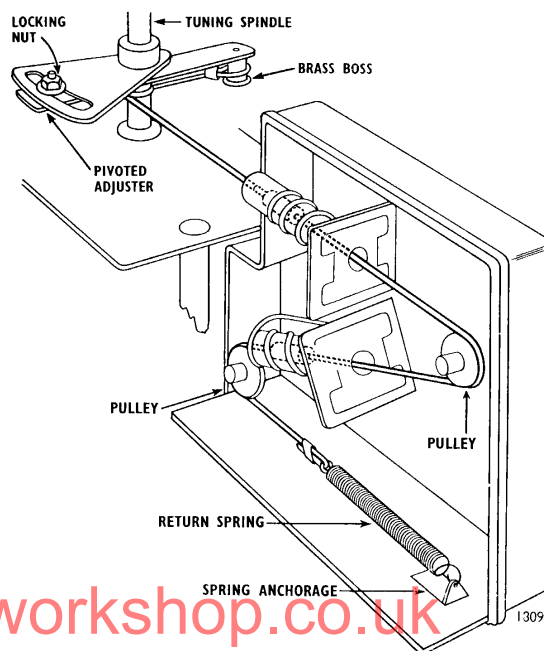

Fig. 6—VHF Cord Drive
3. Thread assembly of tuning cores (fig. 6) through coil formers and hook the spring (fig. 6) to its anchorage.
4. Now take one turn in a clockwise direction around the tuning capacitor spindle and slip the loop in the cord over the brass boss (fig. 6).